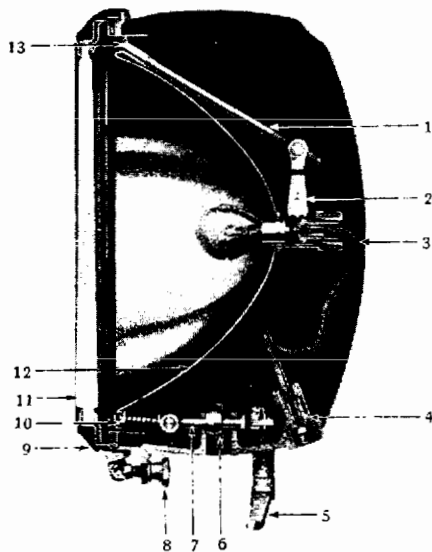
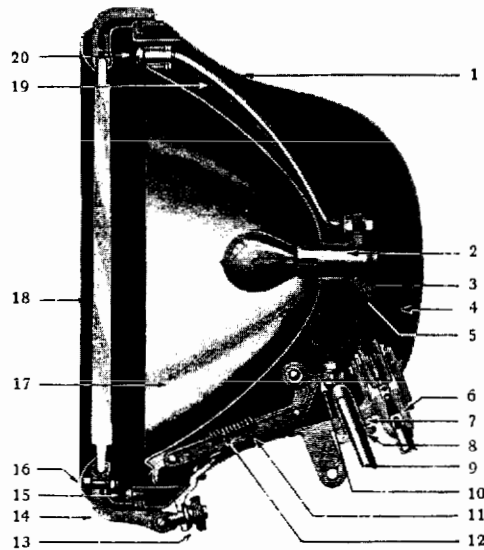

Fig. 55
Fig. 56
tor by turning the adjusting screw (10) Fig. 55 at the bottom of the reflector to aim the beam. On the bell type lamp loosen check nut (7) Fig. 56 and turn adjusting screw (8) to aim the